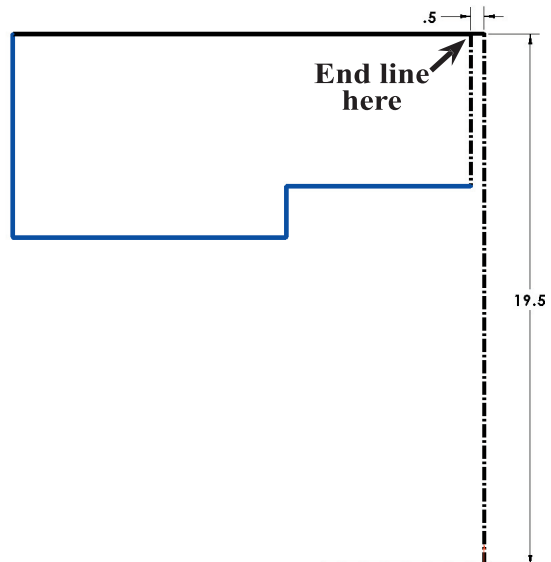
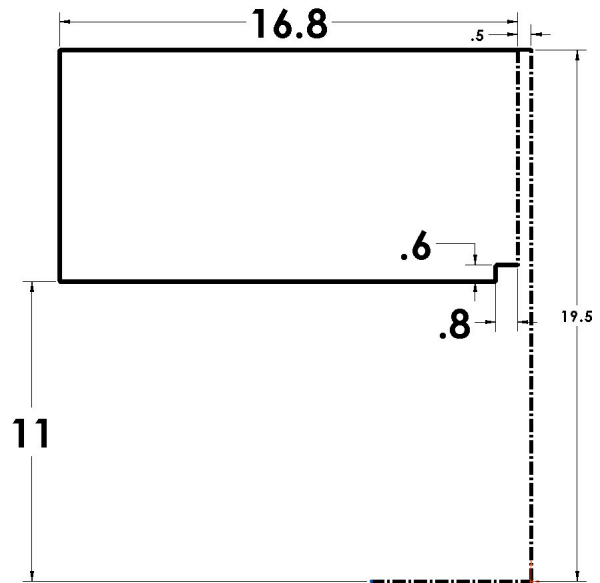
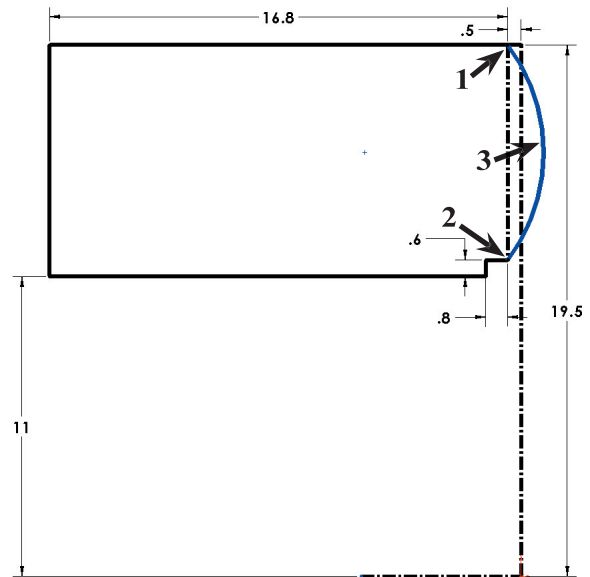

Fig. 4
Fig. 5
Fig. 6
Step 5. Click **Smart Dimension**  (S) on the Sketch toolbar.
Step 6. Add the dimensions, **Fig. 4**.
Step 7. Click **Zoom to Fit**  (F) on the View toolbar.
Step 1. Click **Line**  (L) on the Sketch toolbar.
Step 2. Draw the lines as shown in **Fig. 4**. Use the inferencing line, the dotted line that appears when you draw to keep lines vertical or horizontal.
Step 3. Click **Smart Dimension**  (S) on the Sketch toolbar.
Step 4. Add dimensions as shown in **Fig. 5**.
Step 1. Click **3 Point Arc**  (S) in the Arc flyout  on the Sketch toolbar.
Step 2. Draw an arc between the Position 1, Position 2 and Position 3 in **Fig. 6**. To draw the arc, first click Position 1, then Position 2. Swing the arc out to Position 3 and click. Position 1 is the inside construction line endpoint.